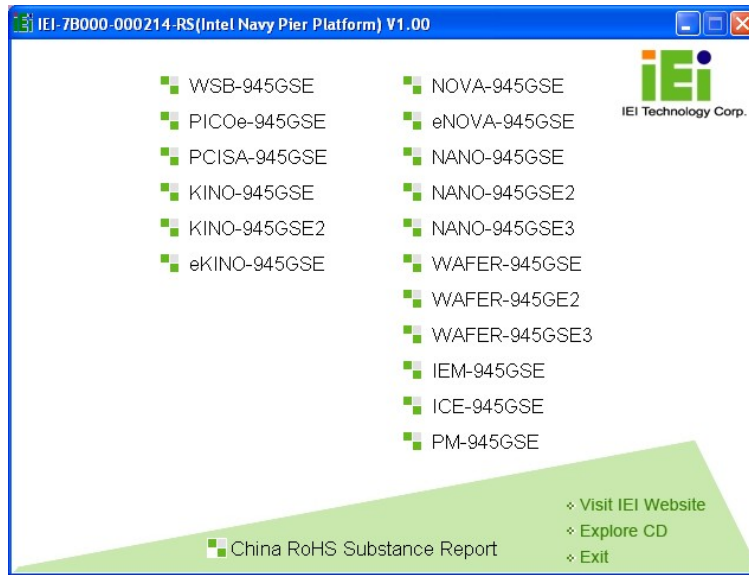

Figure 7-1: Start Up Screen
Step 2: The screen in Figure 7-1 appears.